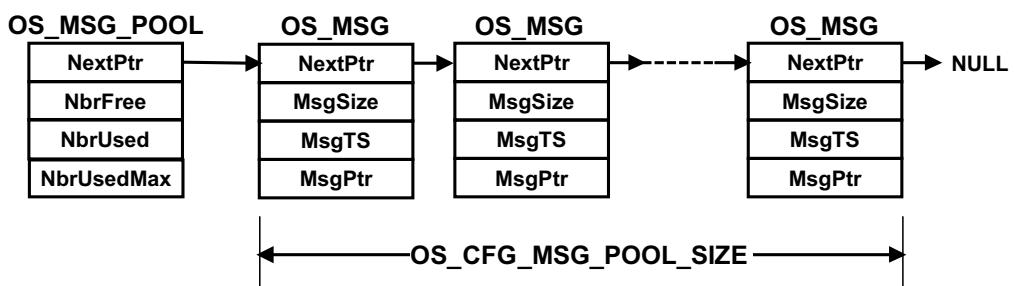

Figure 15-12 Pool of free `OS_MSGs`
µC/OS-III maintains a pool of free `OS_MSGs`. The total number of available messages in the pool is determined by the value of `OS_CFG_MSG_POOL_SIZE` found in `os_cfg_app.h`. When µC/OS-III is initialized, `OS_MSGs` are linked in a single linked list as shown in Figure 15-12. Notice that the free list is maintained by a data structure of type `OS_MSG_POOL`, which contains four (4) fields: `.NextPtr`, which points to the free list; `.NbrFree`, which contains the number of free `OS_MSGs` in the pool, `.NbrUsed`, which contains the number of `OS_MSGs` allocated to the application and, `.NbrUsedMax` which detects the maximum number of messages allocated to the application.